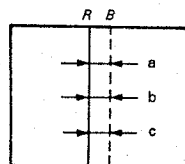

Fig. 3-6
- Adjust the Y-CROSS (RV1705) and Y-BOW (RV1702), so that RED and BLUE shown in Fig3-6 will become $a=b=c$.